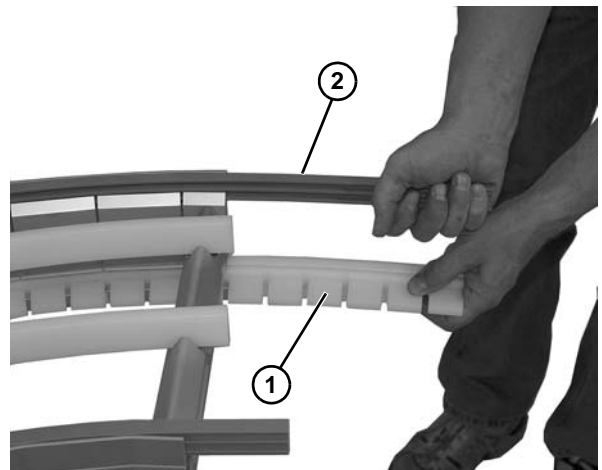

Figure 38
3. Slide lower curve wear strips (Figure 38, item 1), and upper wear strips (Figure 38, item 2) from curve frame assembly.